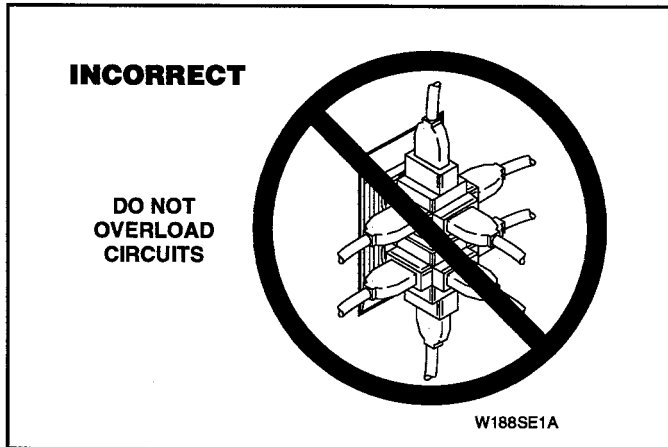

Figure 9-2
- **Do not operate other appliances on the same circuit. Do not overload circuits! See Figure 9-2**